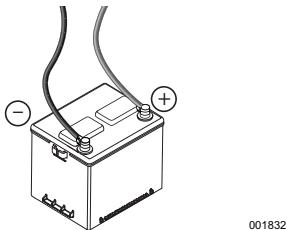

Figure 4-10. Battery Cables
5. See *Figure 4-10*. Inspect battery posts and cables for tightness and corrosion. Tighten and clean as necessary.